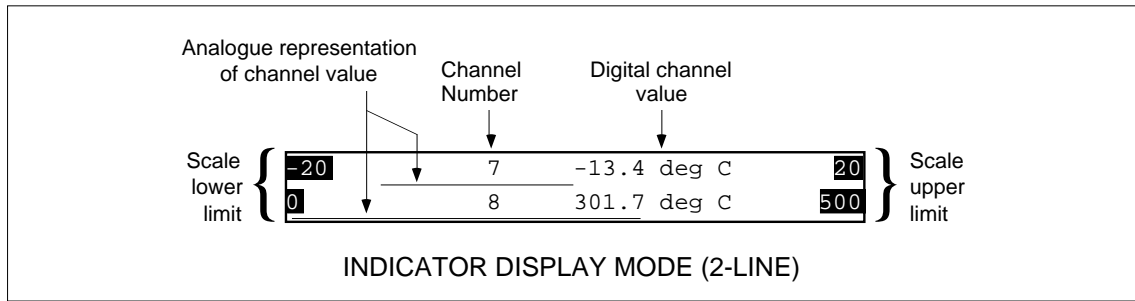

Figure 3.2.1b Indicator display mode (2-line)
- Indicator** The top line of the display contains channel number, digital value and units for the current channel together with an analogue (bar) interpretation of that value. The bottom line contains either softkey legends or, if 2-line working is in operation, a further channel display (figure 3.2.1b).